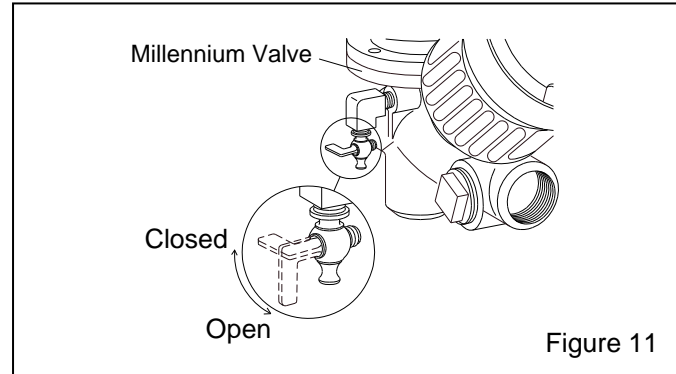

Figure 11
3.2.10 Make sure the safety petcock on the Millennium valve. Open position is when the lever is aligned with the petcock, as shown in Figure 11.